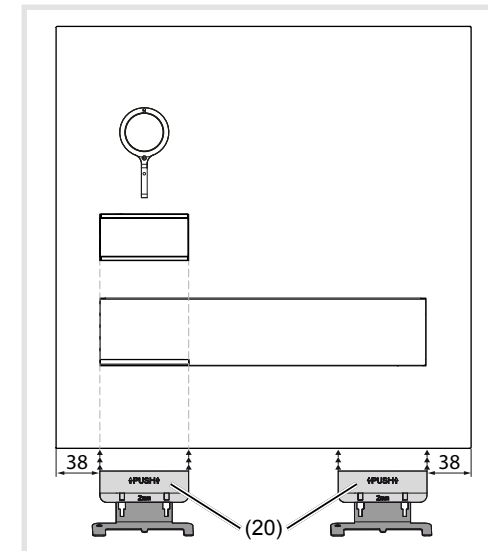

Figure 19: Opening the letter box front
Attach opening tools (20) in accordance with Figure 19 with a spacing of 38 mm to the sides and press upwards (Figure 19).